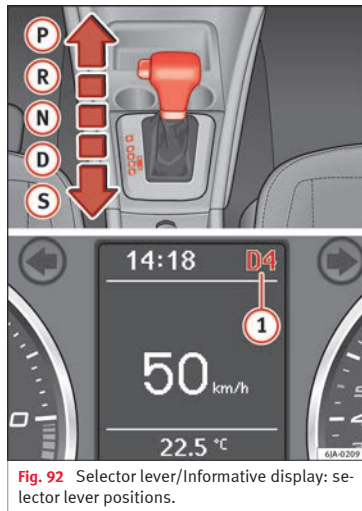

Fig. 92 Selector lever/Informative display: selector lever positions.
The current position of the selector lever is shown on the general instrument panel display ⓘ **»** Fig. 92.
– From position **D**, push the selector lever to the right. The selected position of the selector lever is shown on the general instrument panel display together with the gear engaged ① » Fig. 92.